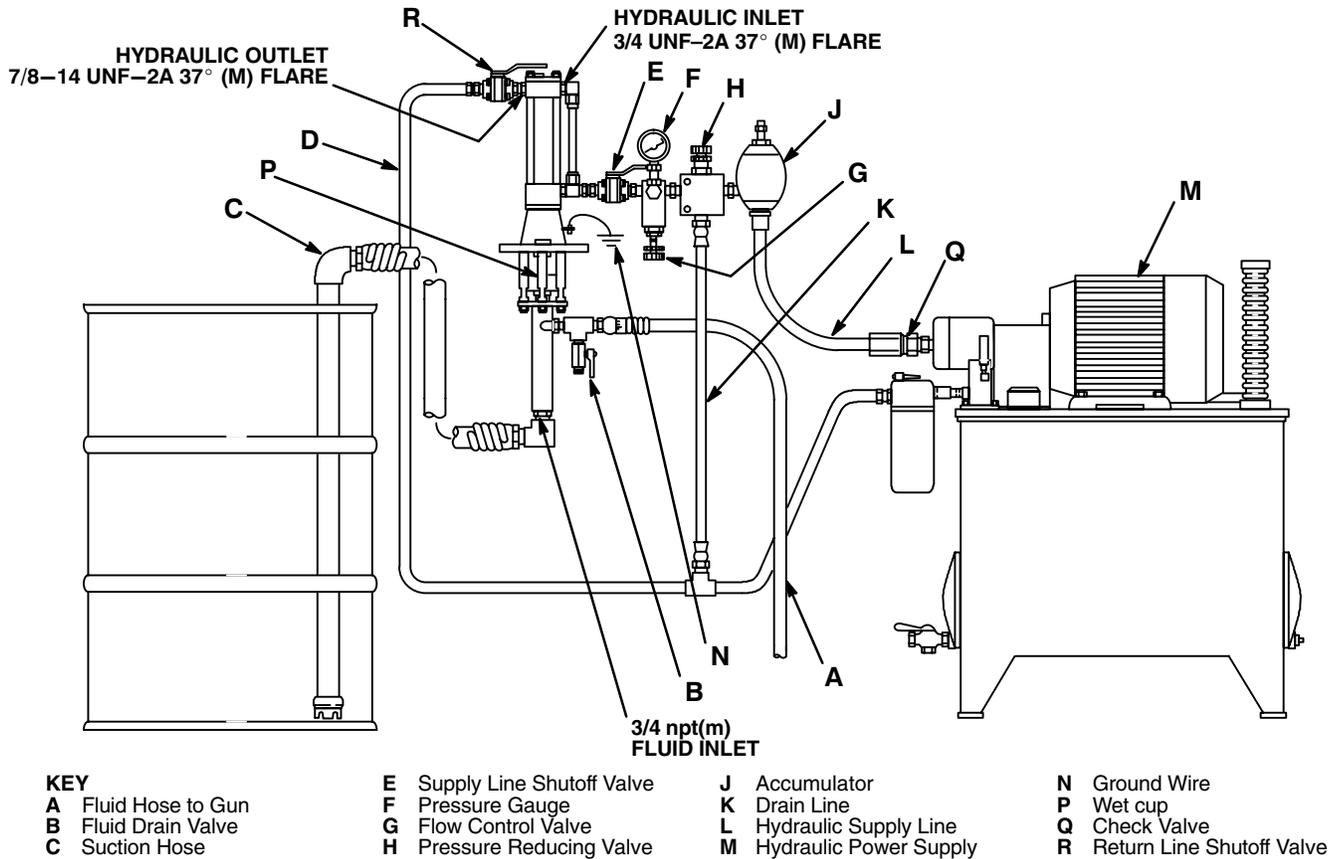

Fig. 2
The Typical Installation shown in Fig. 2 is only representative. Contact your Graco distributor for specific information. Pump dimensions and mounting hole layout are shown on page 14.
To reduce the risk of serious bodily injury, including fluid injection, your system must include a drain valve installed near the pump fluid outlet to help relieve fluid pressure in the displacement pump and hoses when shutting off the pump. See Fig. 2.
Install a fluid drain valve (B) and a grounded dispense hose (A) to the 3/8 npt fluid outlet on the displacement pump. Connect a suction hose to the 3/4 npt pump fluid intake. See Fig. 2.